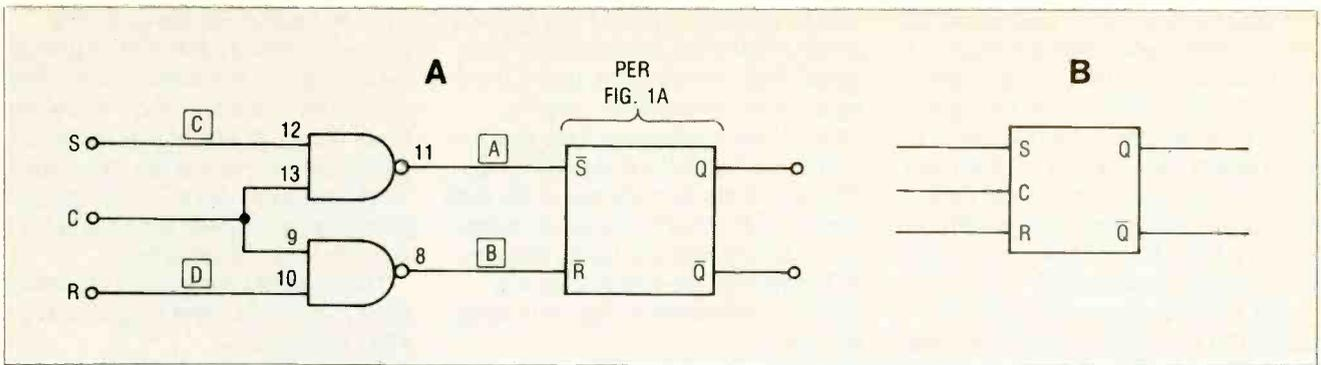

Fig. 3 - Clocked RS flip-flop, A) NAND gate circuit implementation, B) Typical schematic symbol.
An example of a simple level triggered clocked RS flip-flop is shown in Fig. 3. The main flip-flop is the same as the circuit in Fig. 1A, so it is shown here in block form. The S and R inputs are controlled by a pair of NAND gates. When the clock input is LOW, then both inputs to the RS flip-flop section (i.e., points A and B) see a HIGH, so no changes can take place.
Build a clocked RS flip-flop using one section as shown in Fig. 1A (a NAND-logic RS flip-flop) and two additional NAND gates. Note that the 7400 device used to make the RS section also contains two more NAND gates to make the control section. The pinouts for these two gates are shown in Fig. 3.
1. Connect the circuit of Fig. 3, using the same pins as in Fig. 1A for the RS section, and the pins shown in Fig. 3 for the control gates.